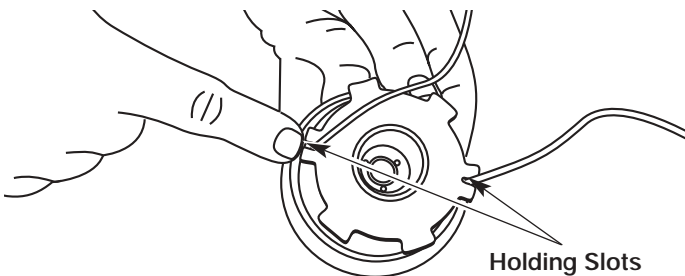

Fig. 58
- Insert the ends of the line into the two holding slots (Fig. 58).